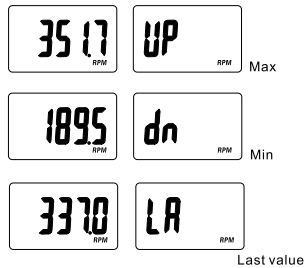

Fig. 2
a. Slide the function switch (4) to RPM or Hz, to select desired unit of measure.
b. Press and hold the measurement button (3). Point light beam at the reflective mark to obtain readings.
c. After display data is stable and the desired amount of readings have been taken, release the measurement button. The maximum (UP), minimum (dn) and last value (LA) have been recorded over the test period.
d. Press “MEM” button (5) to cycle the display through the maximum (UP), minimum (dn), and last (LA) values. The MEM button must be pressed and released each time to cycle through the values (Fig. 2).